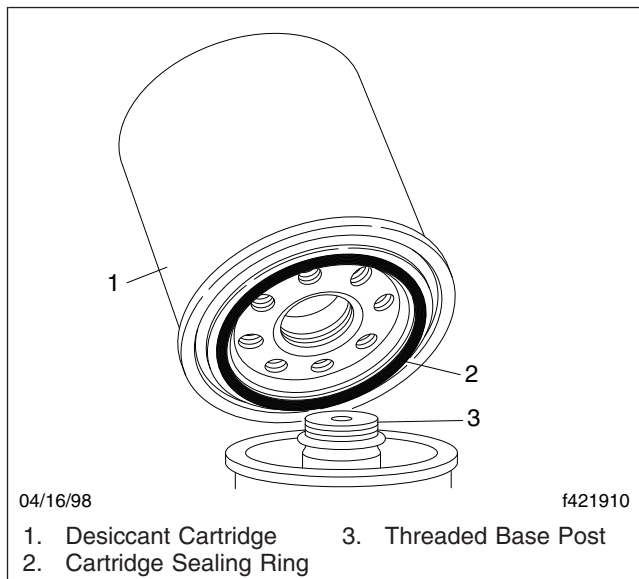

Fig. 3, Desiccant Cartridge Replacement
3. Using a strap wrench or equivalent, loosen the desiccant cartridge. See Fig. 3. Spin the cartridge off by hand and discard it.